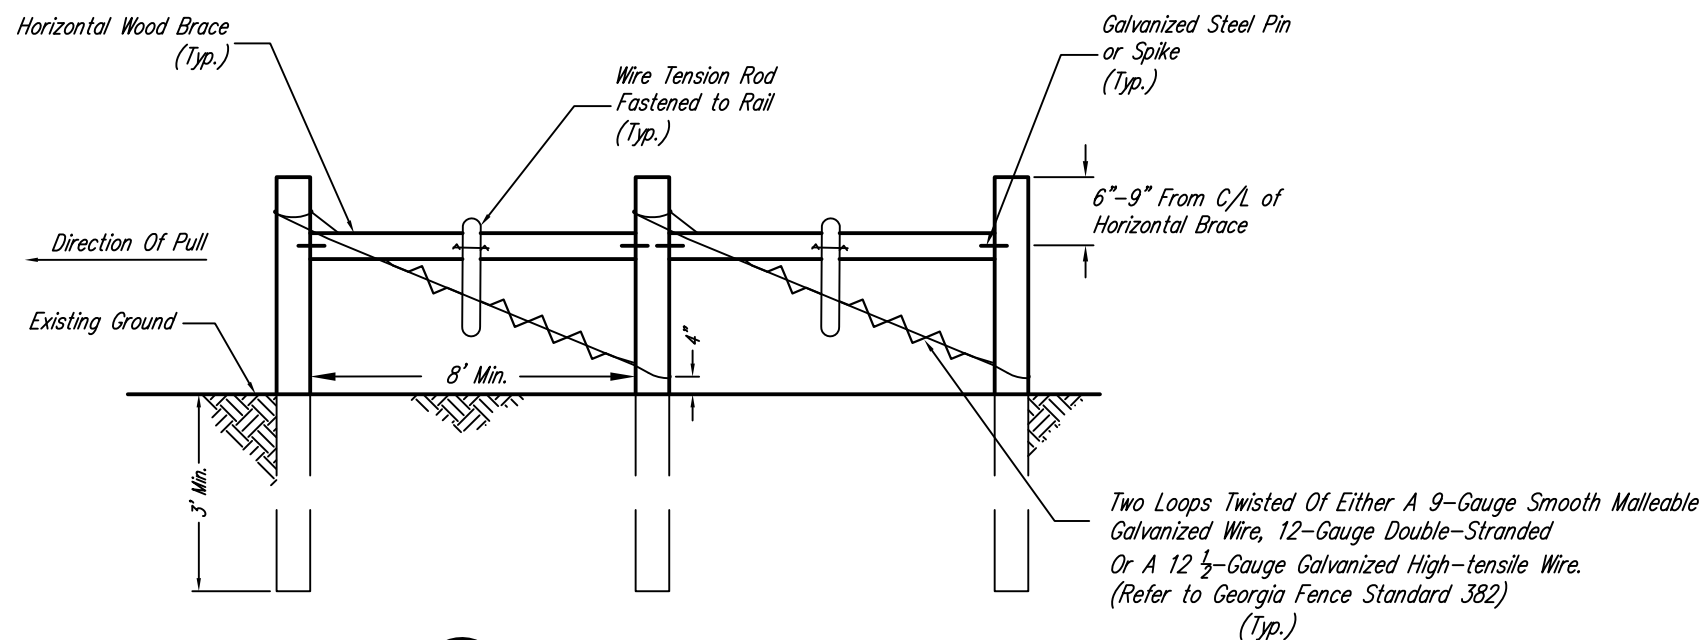

FIG 2.1 DOUBLE H-BRACE END POST DETAIL
- Use double H-braces in deep sands, or where soil remains saturated more than 6 months during the year. (See **Figures 2.1 and 2.2**)